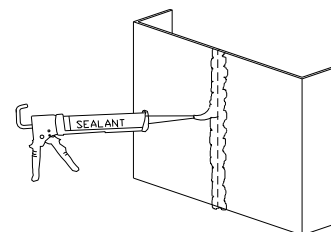

Figure 13:
- If sillpan is more than one piece, butt the pieces and glue them to the floor together (Figure 13).